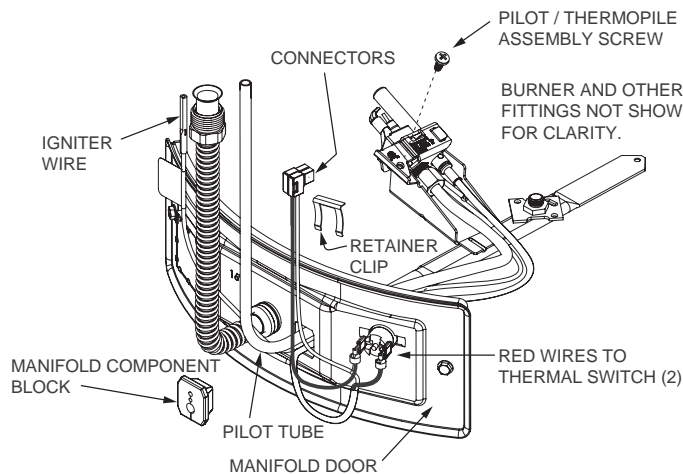

FIGURE 25.
3. Remove the screw securing the pilot/thermopile assembly to the pilot bracket and keep for reuse later (Figure 25).
4. Lift the retainer clip straight up from the back of the manifold component block (using a flat-blade screwdriver), then remove the manifold component block from the manifold door (Figure 25). **IMPORTANT:** Be careful not to bend or alter the position of the pilot tube. It will be used as a bending template for the new pilot assembly. Note the placement/order of the wires in the manifold component block.
7. Route the new pilot tube, igniter wire and thermopile wire through the opening in the manifold door. See Figure 25.